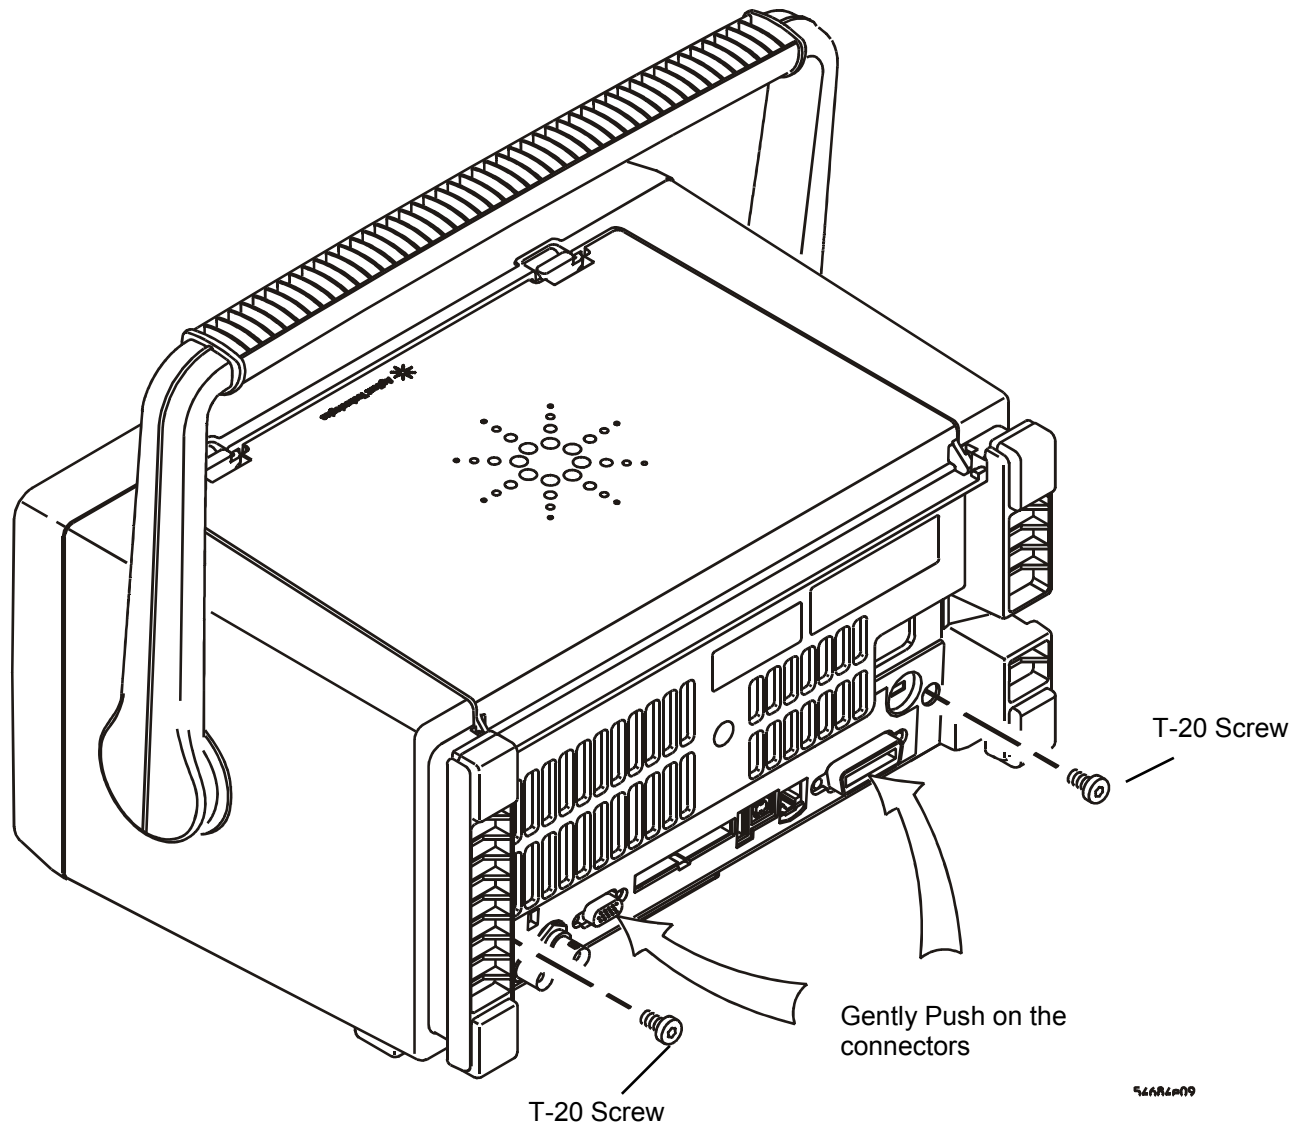

Figure 1 Remove the cabinet.
2. Replace the two T20 screws shown in Figure 1 on page 3.